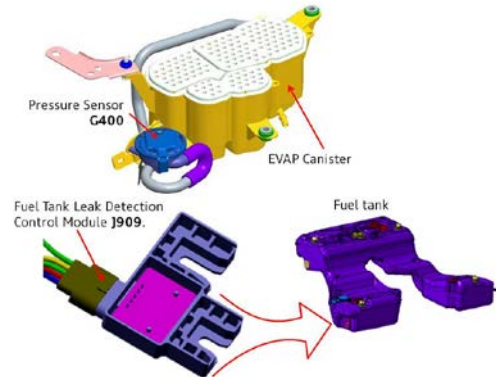

Figure 2. Separate sensor and control module.
- Separate fuel tank pressure sensor, G400, and fuel tank leak detection control module, J909 (Figure 2).